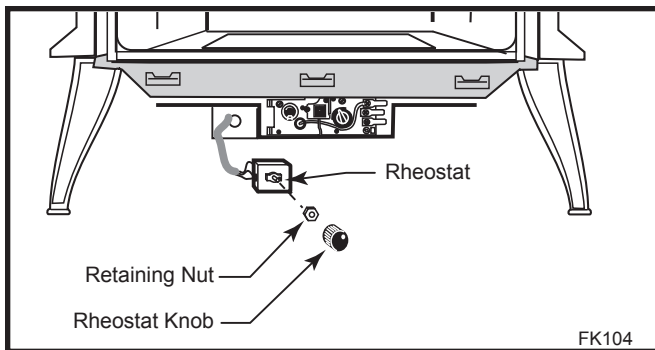

Fig. 16 Attach rheostat to bracket.
4. The rheostat control switch attaches to the left side of the valve bracket at the front of the stove. (Fig. 16)